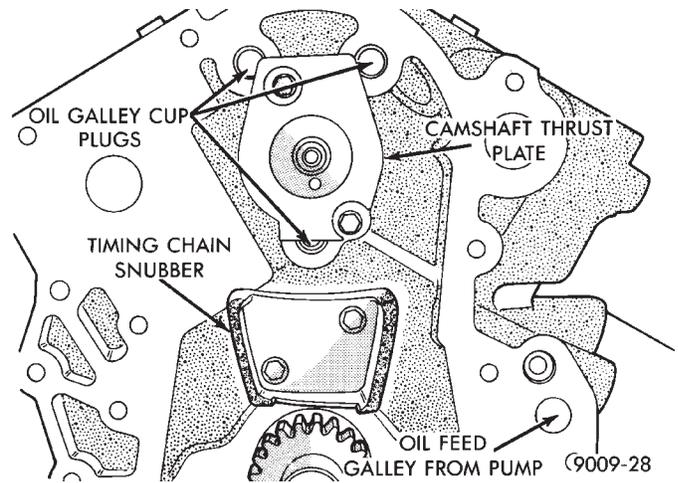
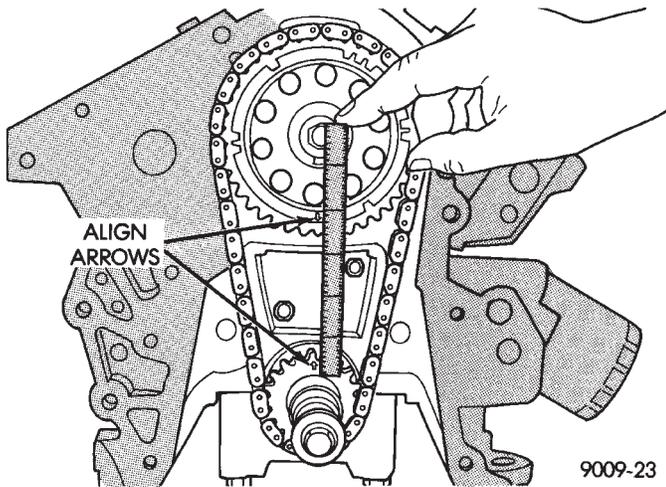

Fig. 10 Camshaft Thrust Plate
Fig. 12 Alignment of Timing Marks
- (1) Remove rocker arm and shaft assemblies.
- (2) Remove push rods and tappets; identify so each part will be replaced in its original location.
- (3) Remove camshaft thrust plate (Fig 10).
- (4) Install a long bolt into front of camshaft to facilitate removal of the camshaft; remove camshaft, being careful not to damage cam bearing with the cam lobes.
(2) Install camshaft thrust plate with two screws as shown in (Fig. 10). Tighten to 12 N·m (105 in. lbs.) torque.
(3) Place both camshaft sprocket and crankshaft sprocket on the bench with timing marks on exact imaginary center line through both camshaft and crankshaft bores.
(4) Place timing chain around both sprockets.
(5) Turn crankshaft and camshaft to line up with keyway location in crankshaft sprocket and in camshaft sprocket.
(6) Lift sprockets and chain keep sprockets tight against the chain in position as described.
(7) Slide both sprockets evenly over their respective shafts use a straightedge to check alignment of timing marks (Fig. 12).
(8) Install the camshaft bolt. Tighten bolt to 54 N·m (40 ft. lbs.).
(9) Rotate crankshaft 2 revolutions. Timing marks should line up. If timing marks do not line up, remove cam sprocket and realign.
(10) Measure camshaft end play. End Play should measure .0127 to .304 mm (.005 to .012 inches.) .310 mm (.012 inch. Max.). If not within limits install a new thrust plate.
(11) Each tappet reused must be installed in the same position from which it was removed. **When camshaft is replaced, all of the tappets must be replaced.**